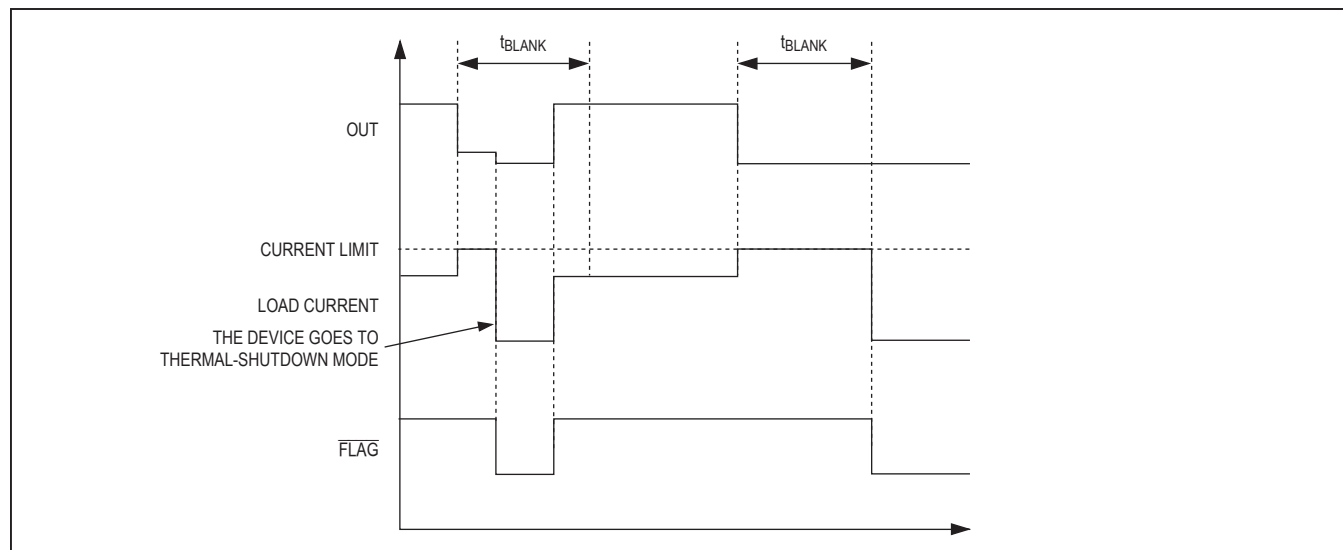

Figure 3. Latchoff Fault Diagram
When the forward current reaches the current-limit threshold, the t_{BLANK} timer begins counting (Figure 3). $\overline{\text{FLAG}}$ asserts if an overcurrent-limit condition is present for greater than t_{BLANK} time. The timer resets if the overcurrent condition disappears before t_{BLANK} has elapsed. The switch turns off if the overcurrent condition continues beyond the blanking time. Reset the switch by either toggling the control logic (ON) or cycling the input voltage. If the thermal power rating of the package is exceeded during t_{BLANK} , the MAX4995B goes into thermal shutdown.